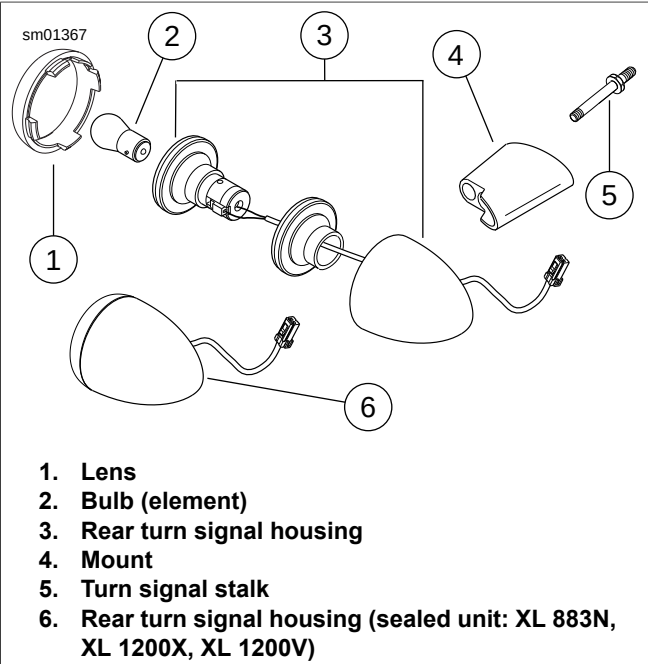

Figure 6-77. Rear Turn Signal Components
3. See Figure 6-77. Install each turn signal housing (3) and mount (4) to rear fender strut cover with turn signal stalk. Tighten to 96-156 **in-lbs** (10.9-17.6 Nm).